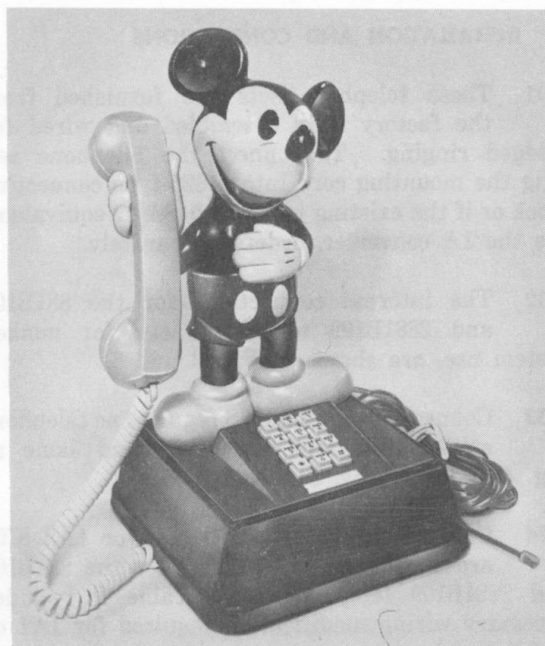

Fig. 1—2881C109 DESIGN LINE Telephone Set
1.01 This section contains identification, installation, and connection information for the 881B109 (MD), 881C109, 2881B109 (MD), and 2881C109 (Fig. 1) DESIGN LINE* telephone (The Mickey Mouse® Phone**) sets.